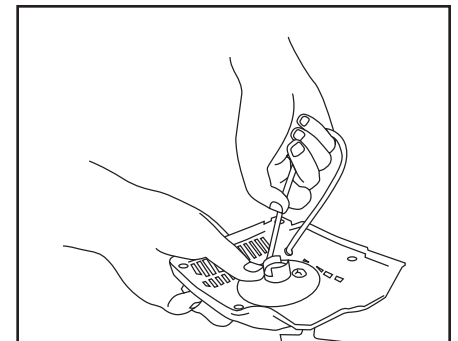

Figure 2
- With the rope fully extended and no tension on the recoil spring, lift the rope into the notch in the pulley and rotate the pulley clockwise 7 wraps (Figure 2), and then allow the spring to retract the rope.